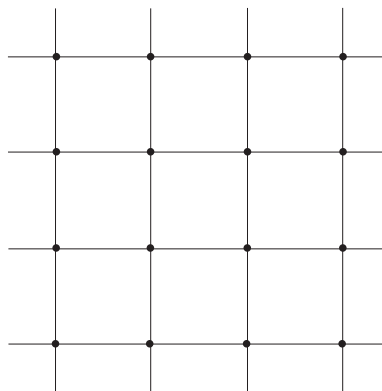

Figure 4
2. Use diluted india ink or water-soluble materials for this exercise. Hold air brush approximately 1/2 in. away from paper and spray small dots on the intersecting lines. See Figure 4.